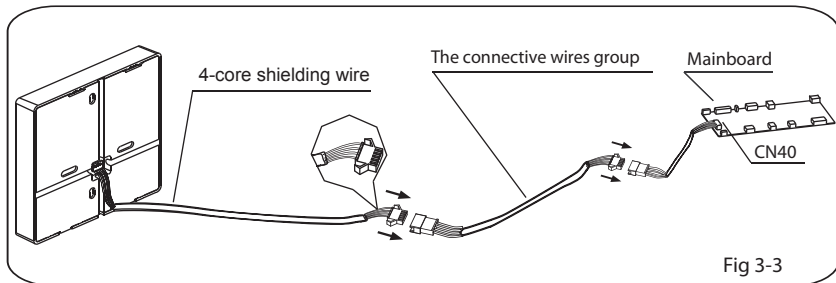

Fig 3-3
- Connect the female joint of wires group from the mainboard with the male joint of connective wires group. (See Fig.3-3)
- Please connect the other side of connective wires group with the male joint of wires group leads from wire controller. (See Fig.3-3)